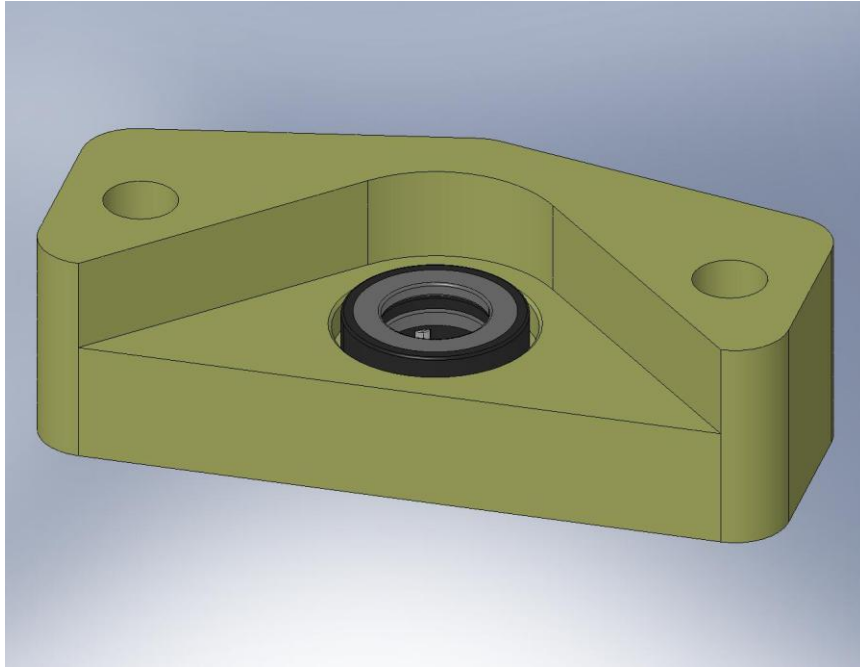

Figure 3.55. The parts should look like this, after the press.
- Press combination bearing (INA model NKX25-Z) into **Spring Pull-Down Bar** (D071306), as shown in Figure 3.54 and Figure 3.55.